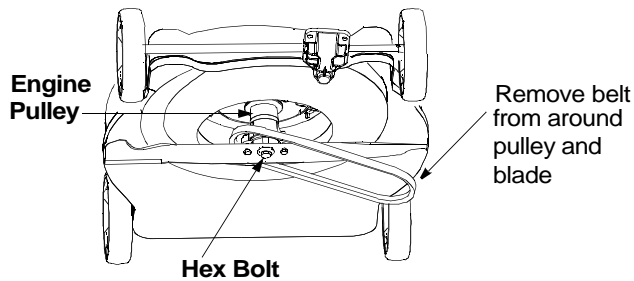

Figure 20
- Slide the belt off the engine pulley and around the blade. See Figure 20.